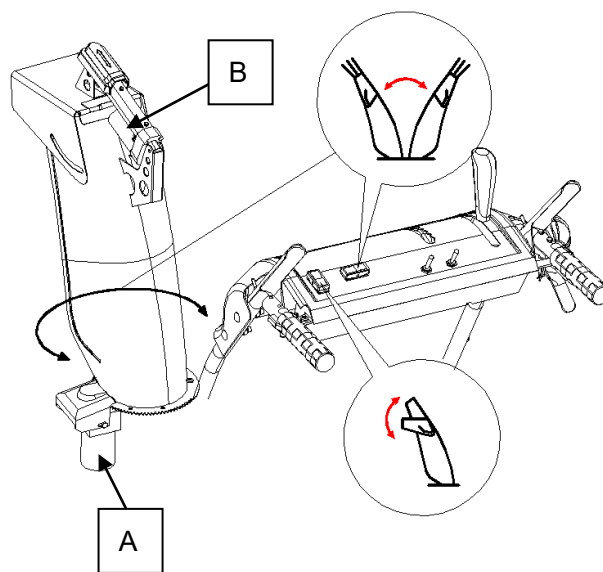

Figure 9
1. Press the chute rotation switch to the UP position and hold to rotate the chute to the left (See A, Figure 9)
1. Press the chute deflector switch to the UP position and hold to provide a higher stream and greater distance (See B, Figure 9)